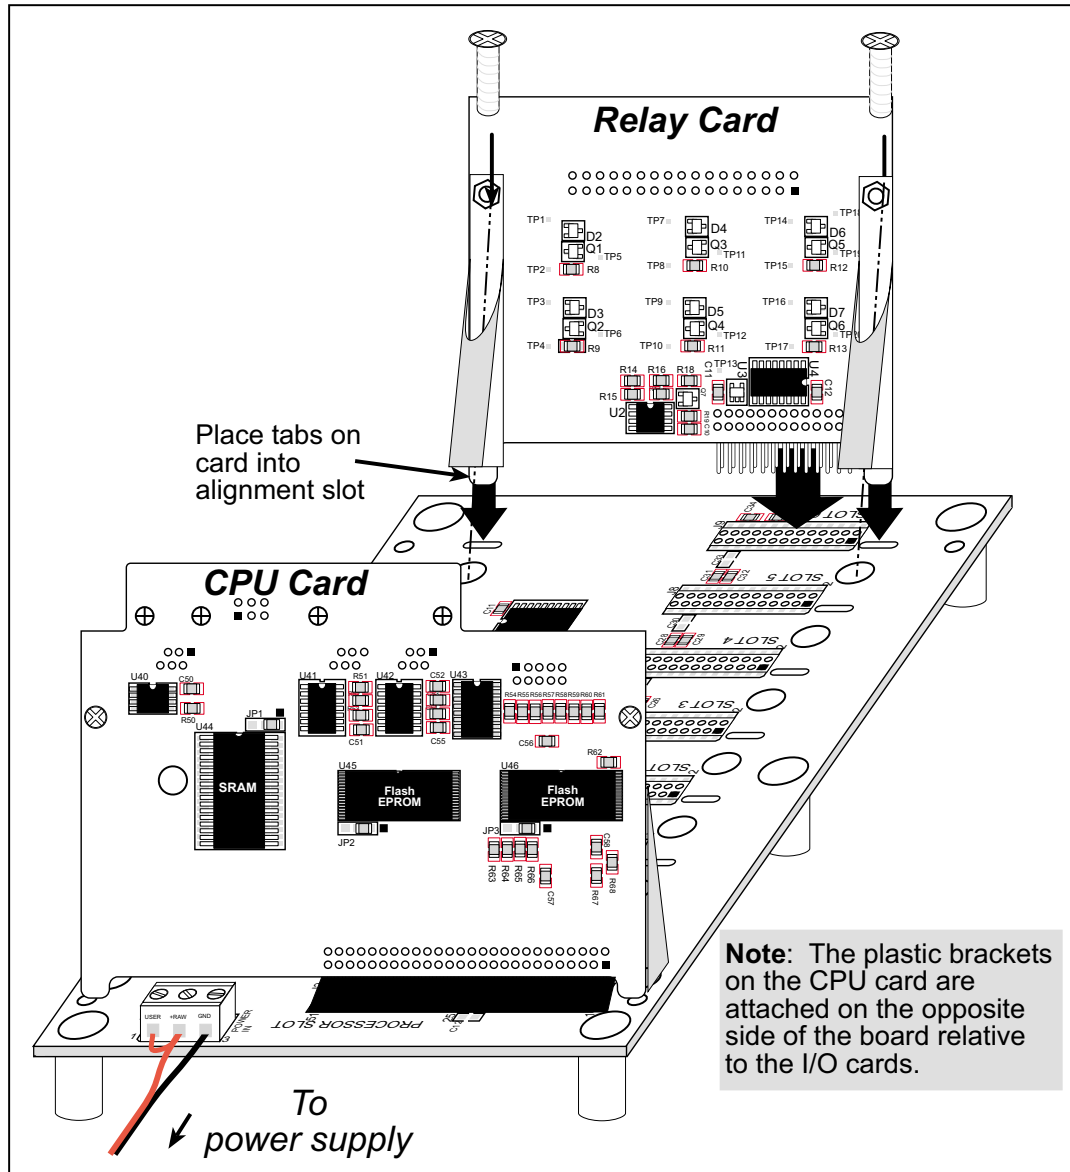

Figure 1. Installing Relay Cards on the Backplane
1. Orient the backplane with the CPU card already installed and facing towards you as shown in Figure 1.
2. Position the relay card above the backplane over any unused slot position (**SLOT 0 to SLOT 6**) as shown in Figure 1. Note the slot number and the type of I/O card since Dynamic C addresses the I/O cards by slot number.
3. Carefully insert the relay card header into the slot on the backplane and line up the tabs on the card with the slots on the backplane as shown in Figure 1.